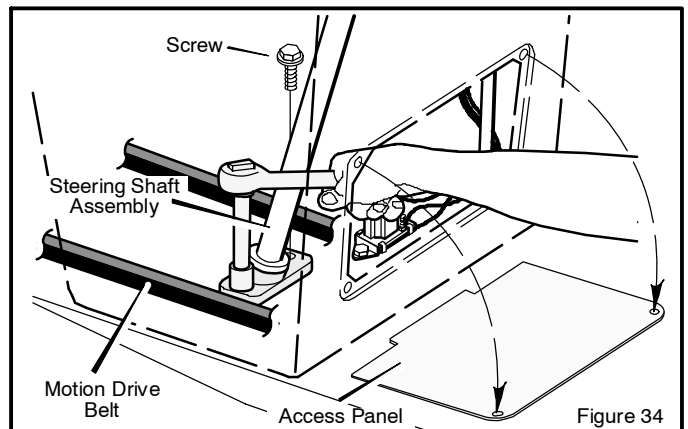

Figure 34
8. Remove the **access panel** (Figure 34).
9. Remove the two **screws** that attach the **steering shaft assembly** (Figure 34). Raise the steering wheel and **steering shaft assembly**. Pull the **motion drive belt** under the **steering shaft assembly**.
9. Attach the **steering shaft assembly** to the steering plate with two screws (Figure 34).
10. Attach the **access panel** (Figure 34).